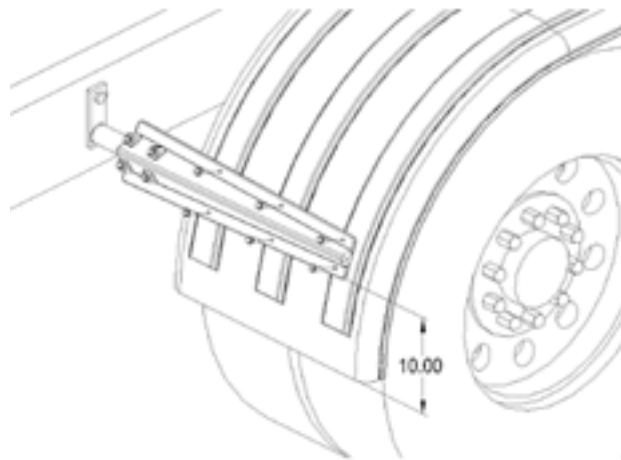

Figure 4
- Make sure the brackets are within 10" of the bottom of the fender to avoid wind blowing the fender back into the tire. If the front fender bracket is mounted higher than 10", run a piece of steel strapping on the inside of the fender to give it extra strength (see Figure 4).